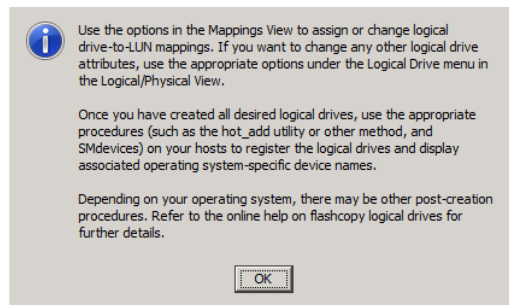

Figure 2-10 Create a FlashCopy Logical Drive: Complete
- d. At the completion message, shown in Figure 2-10, click **OK** to continue.
- f. Click **Finish**. The Create FlashCopy Wizard Complete message box opens, as shown in Figure 2-10 on page 25. Read the notice and click **OK** to continue.